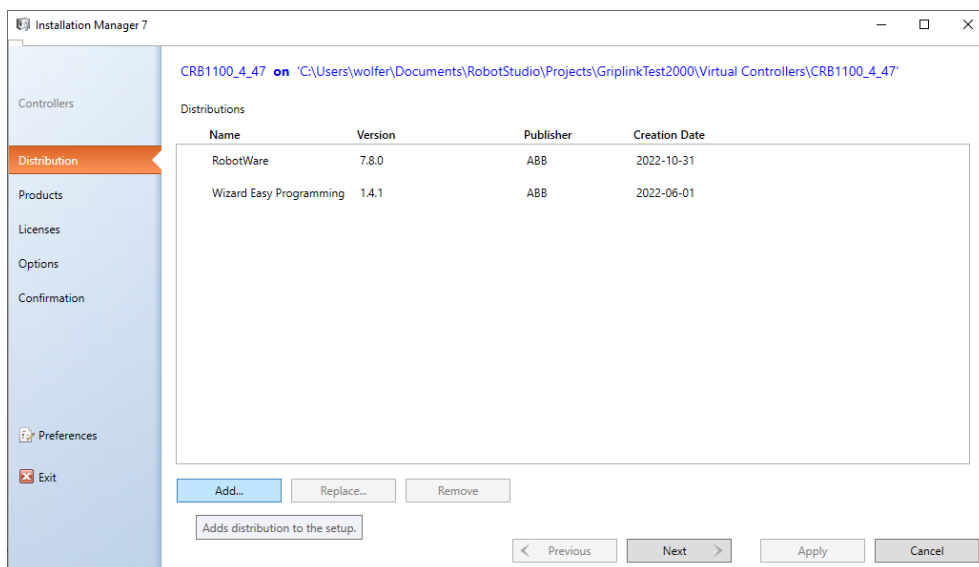

Figure 4
5. Click on the "Add" button to add additional packages to the controller (Figure 4)